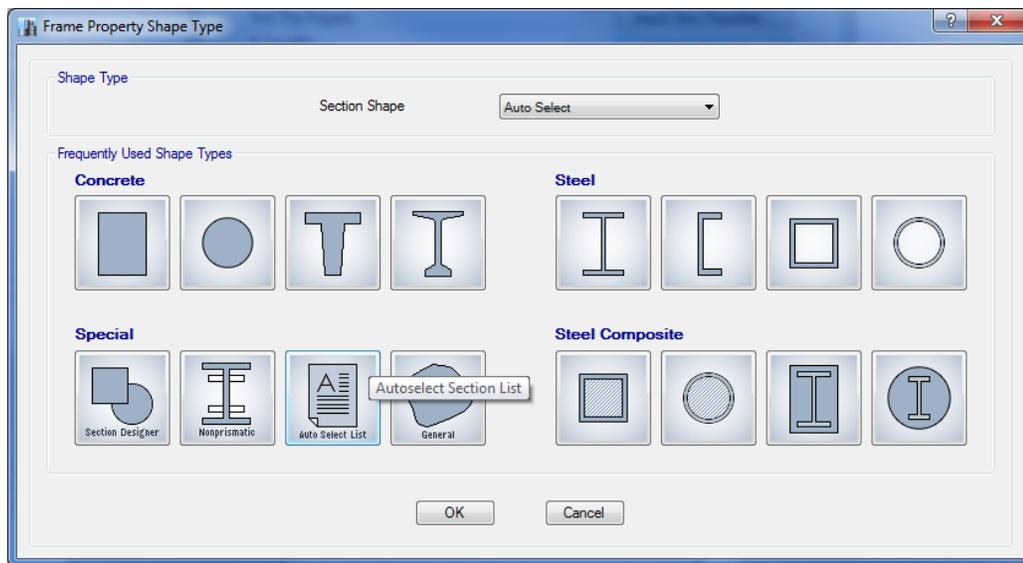

Figure 5-9 Frame Property Shape Type form
2. Click the **Add New Property** button in the Click to area of the Frame Properties form. The Frame Property Shape Type form shown in Figure 5-9 will appear.